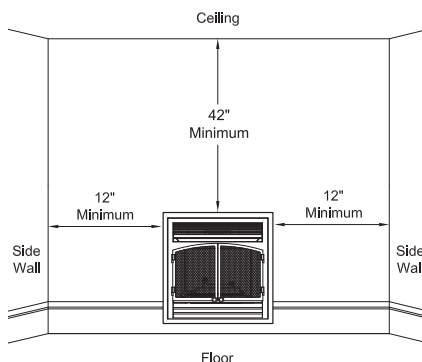

Figure 5 - Minimum Clearance for Combustible to Wall and Ceiling
- Clearance from the side of the fireplace to any combustible material and wall should not be less than 12" (see Figure5).